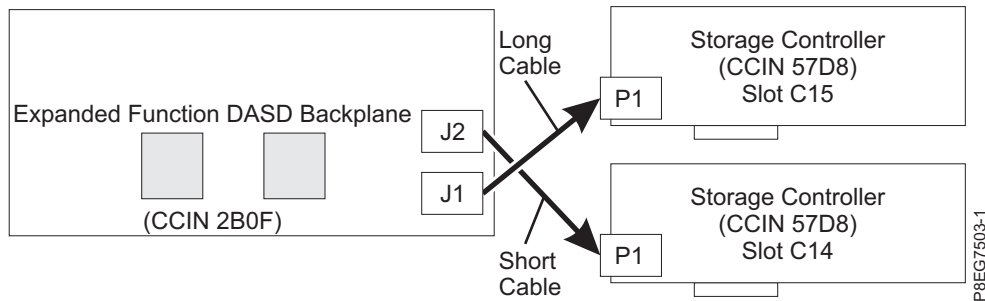

Figure 105. Reconnecting the SAS cable in an expanded function configuration
- The long SAS cable connects the lower disk drive backplane connector (J1) to the P1 connector on the SAS RAID internal adapter in slot P1-C15. See Figure 105.